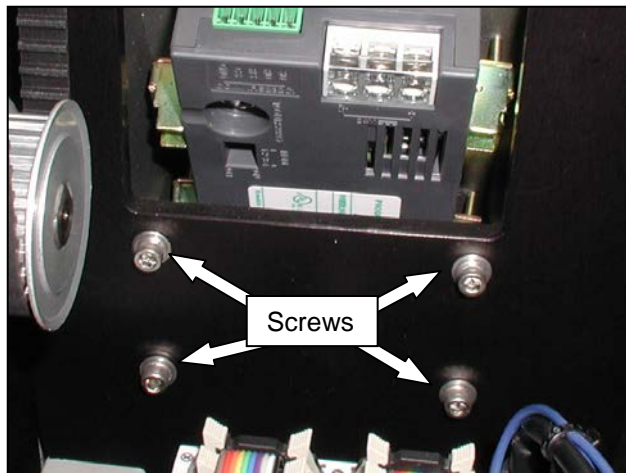

Figure 3-87. Touch Screen Housing Screws
- Remove the four screws holding the Touch Screen Housing (Figure 3-87).